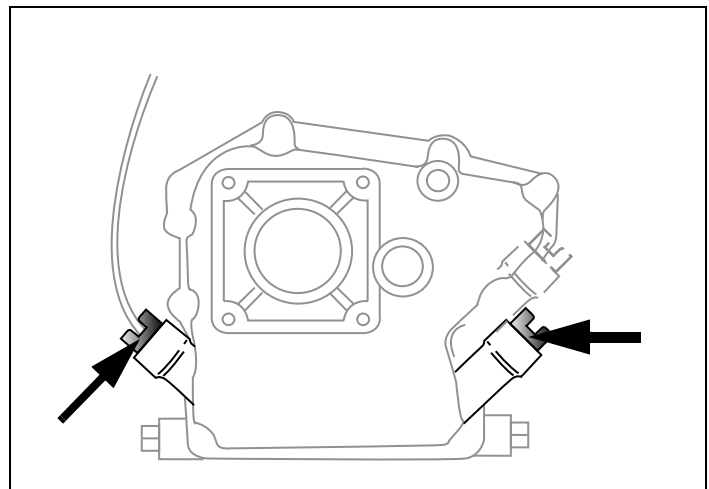

Figure 12. Possible Oil Fill Plug Location(s)
*All models in this manual may be equipped with optional oil fill plug locations. See Figure 12.*
2. Clean area around oil fill plug(s). See Figure 12.